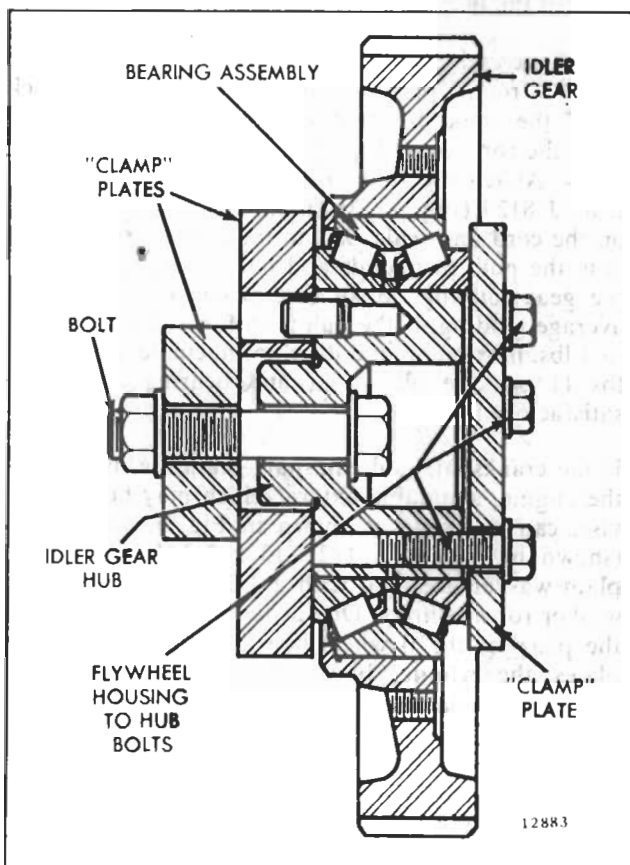
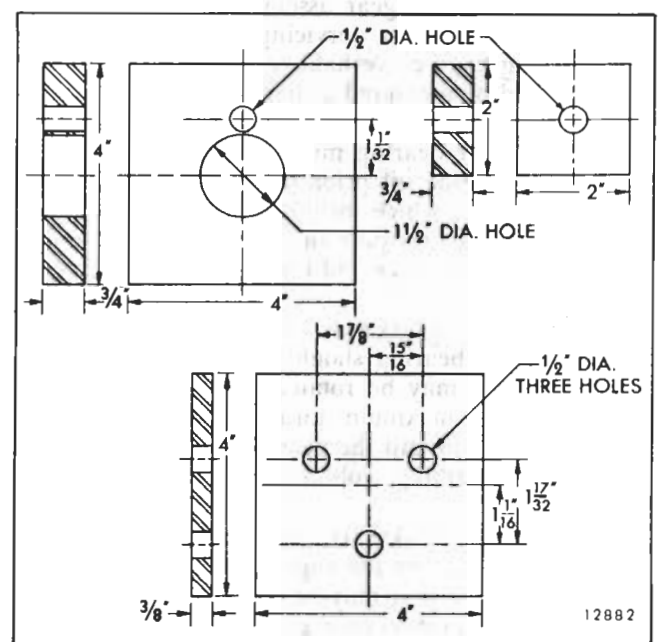

Fig. 5 - Fixture for Testing Bearing Pre-Load
Fig. 6 - Plates for Bearing Test Fixture
3. Place the steel plate (lower plate shown in Fig. 6) against the hub and bearing. Insert three 3/8"-16 bolts through the plate and thread them into the hub. Tighten the bolts to 25-40 lb-ft (34-54 Nm) torque.
If the crankshaft and camshaft gears are mounted on the engine, a suitable fixture, which may be held in a vise, can be made as shown in Fig. 5. Three plates (shown in Fig. 6), a 1/2"-13 x 2-3/4" bolt and a plain washer are used with a 1/2"-13 nut and plain washer for mounting. One of the plates is used to take the place of the flywheel housing, and the other two plates, the cylinder block, "Engine-mounted" conditions are simulated by tightening the nut to 80-90 lb-ft (108-122 Nm) torque and tightening the three plate-to-hub attaching bolts to 25-40 lb-ft (34-54 Nm) torque.
1. Attach two of the plates (two upper plates shown in Fig. 6) to the idler gear hub with the 1/2"-13 bolt,
washers and nut as shown in Fig. 5. Tighten the bolt to 80-90 lb-ft (108-122 Nm) torque.